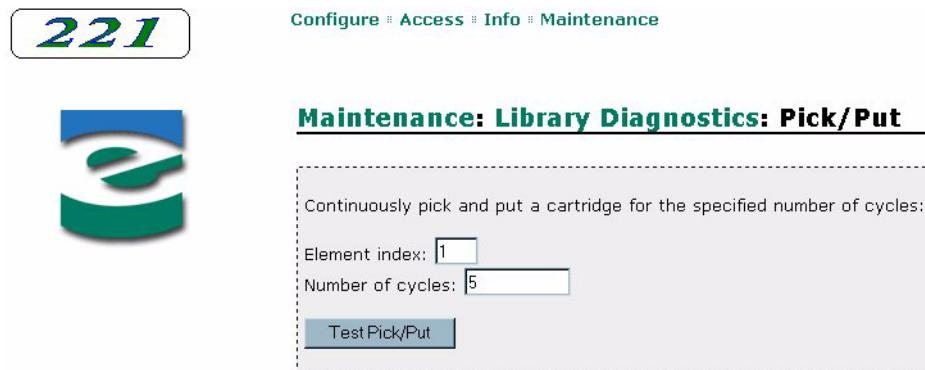

Figure 6-41 Remote management utility – Pick/Put Diagnostics page
4. Click on Continuously pick and place a cartridge. A page similar to Figure 6-41 appears.